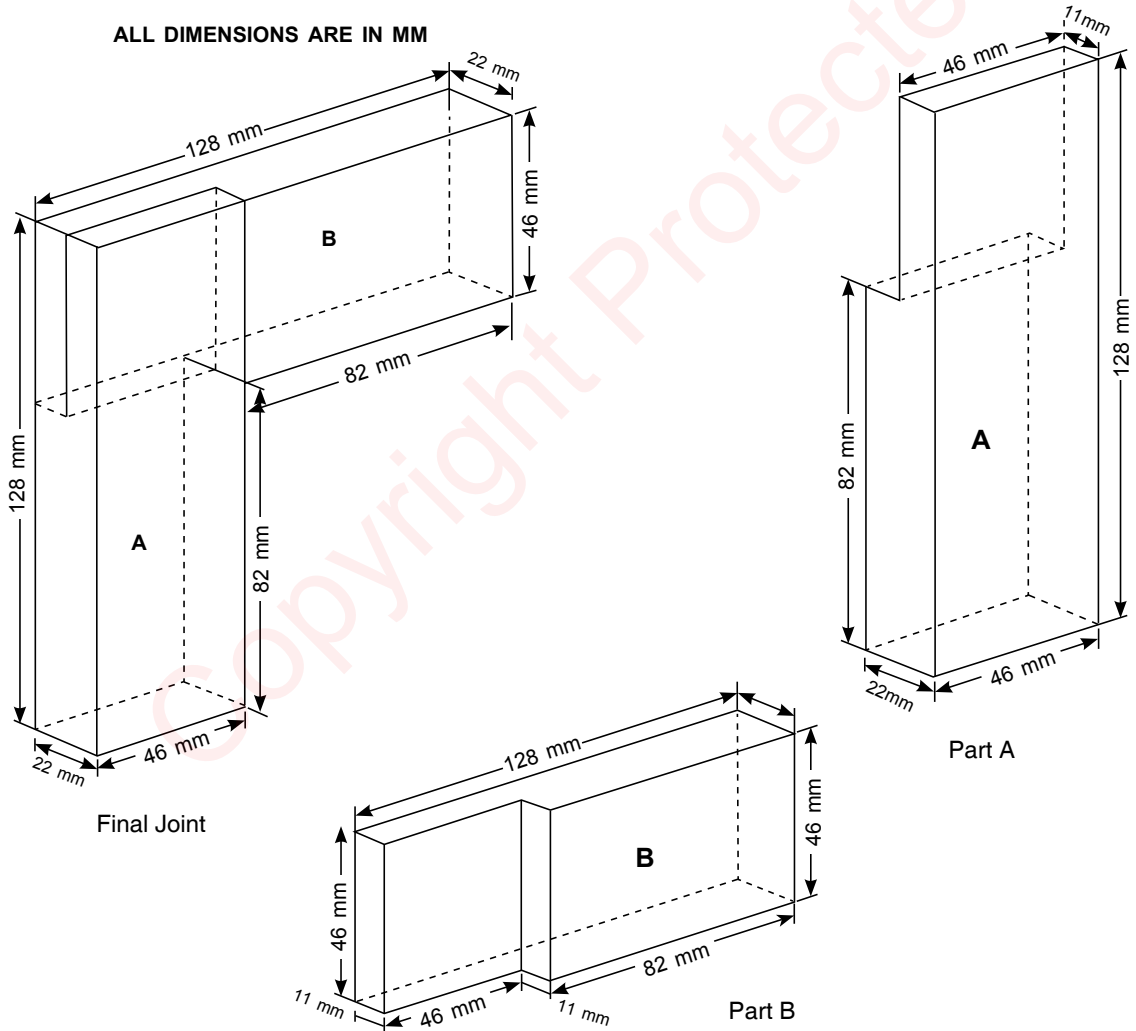

Fig.2.7: Half Lap Joint Dimensions
- 5. Prepare the second work piece by following steps 2 to 4 and mark the pieces as Part 'A' and 'B' as shown in Fig.2.7.